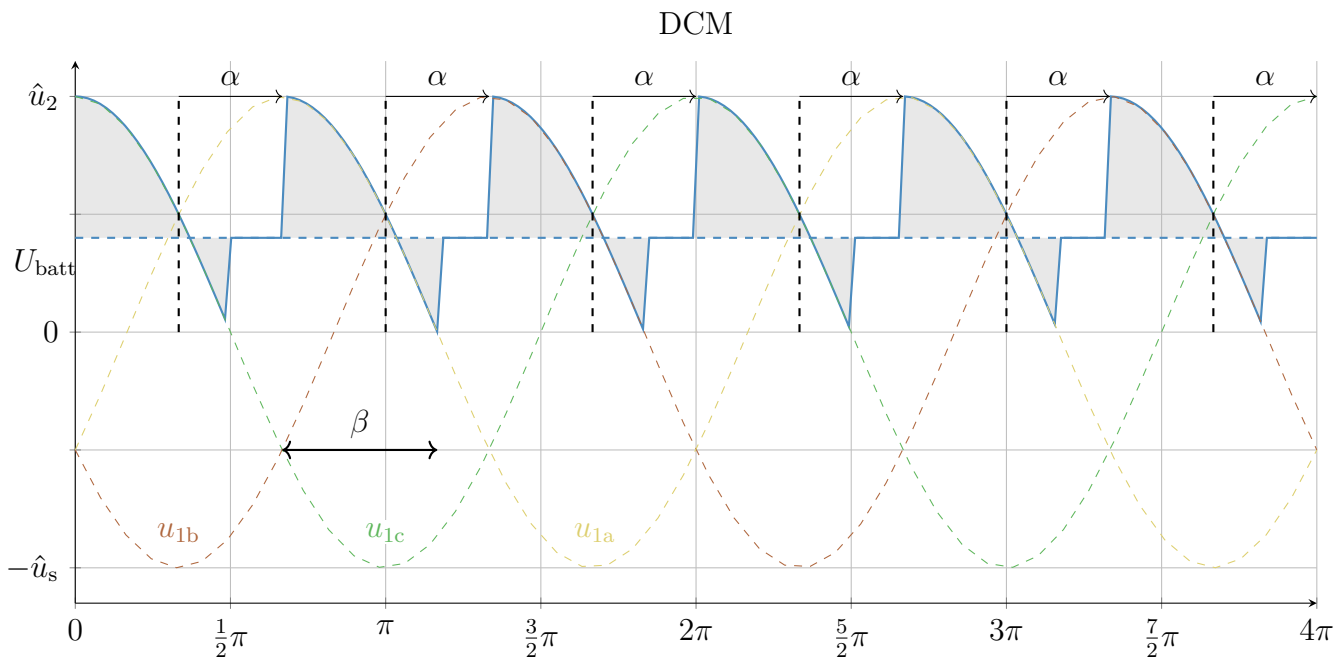

Figure 6: M3C voltages in DCM.
3.5 Consider the case where the inductance  $L$  is finite, such that the converter operates in DCM. For an output voltage  $u_2$  where  $\alpha = \frac{\pi}{3}$  and  $\beta = \frac{\pi}{2}$ , as shown in Fig. 6, calculate the average output voltage  $\bar{u}_2$ . [3 Points]